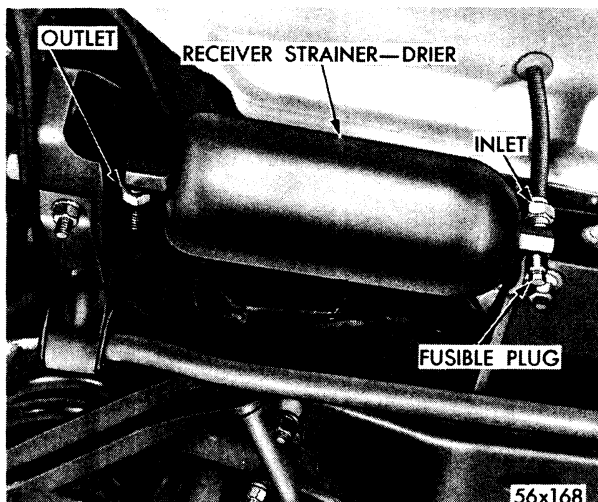

Fig. 21—Receiver Strainer-Drier Installed
30. REPLACEMENT OF RECEIVER FUSIBLE PLUG (FIG. 21)